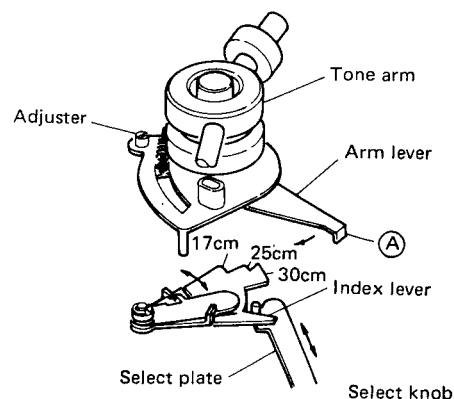

Fig. 10
The stylus is positioned at the beginning of a record according to the record size (17, 25, or 30cm) chosen with the Record Size Select knob. The stylus position is determined by one of three steps on the index lever shown in Fig. 10. Part (A) of the arm lever engages the corresponding step on the index lever.